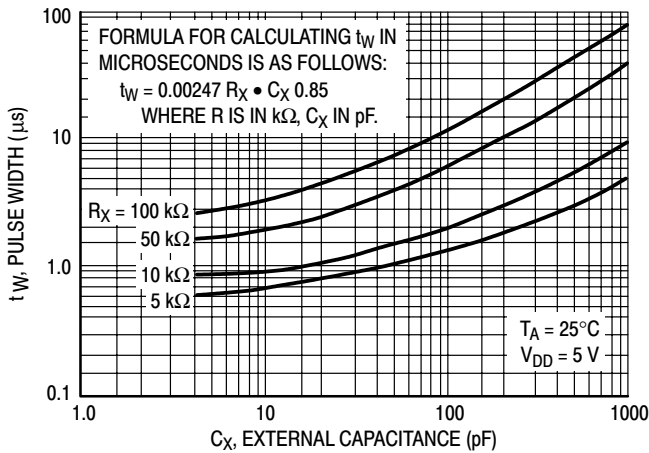

Figure 3. Typical  $C_X$  versus Pulse Width @  $V_{DD} = 5.0 \text{ V}$
**MONO–IN (Pin 15)** — Used as the timing pin for the on–chip monostable multivibrator. If the Mono–In input is connected to  $V_{SS}$ , the monostable circuit is disabled, and Decode Out is directly connected to the selected Q output. The monostable circuit is enabled if a resistor is connected between Mono–In and  $V_{DD}$ . This resistor and the device's internal capacitance will determine the minimum output pulse widths. With the addition of an external capacitor to  $V_{SS}$ , the pulse width range may be extended. For reliable operation the resistor value should be limited to the range of 5 k $\Omega$  to 100 k $\Omega$  and the capacitor value should be limited to a maximum of 1000 pf. (See figures 3, 4, 5, and 10).